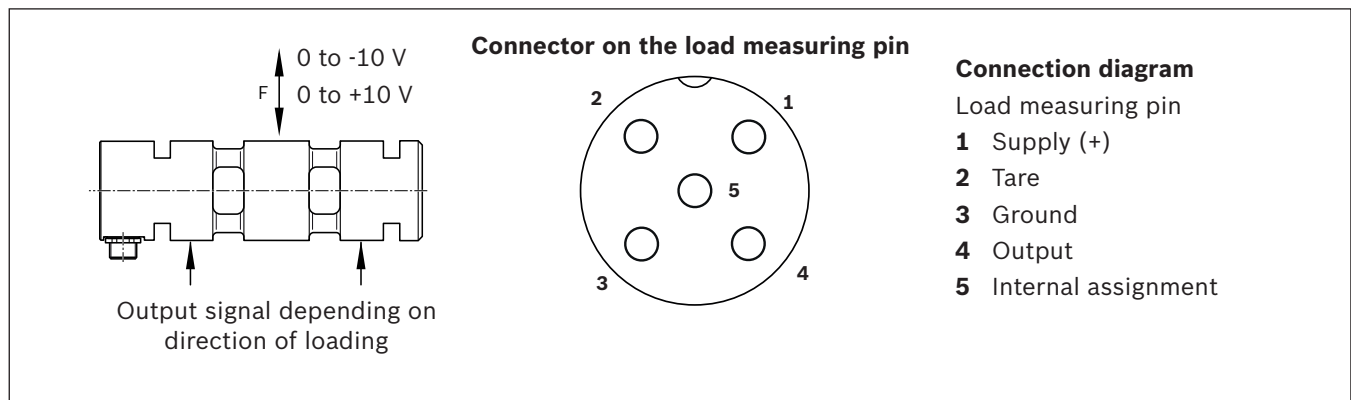

Fig. 11: Connecting the electrical power supply to the load measuring pin
3. Push the load measuring pin (1) by hand between the spherical rod end bearing (2) and the clevis bracket (3).
4. Use the included pin lock (4) to secure the load measuring pin (1) axially and against twisting on one side of the clevis bracket (3).
5. Align the electrical connection on the load measuring pin according to the application. Polarity of the connection ➔ Fig. 11.